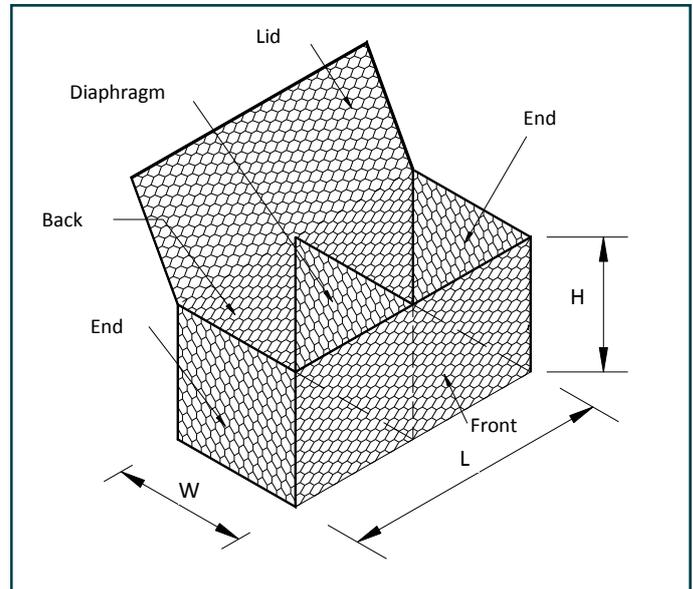

Figure 1
Gabions are baskets made of 8x10 double twisted steel woven wire mesh, as per ASTM A975-97 (Figs. 1, 2). Gabions are filled with stones at the project site to form flexible, permeable, monolithic structures such as retaining walls, channel linings, and weirs for erosion control projects.
The gabion is divided into cells by means of diaphragms positioned at approximately 1m centers (Fig.1). In order to reinforce the structure, all mesh panel edges are selvaged with a wire having a greater diameter (Table 3). Dimensions and sizes of PVC coated gabions are shown in Table 1.
- size of units (length x width x height, see Fig.1),